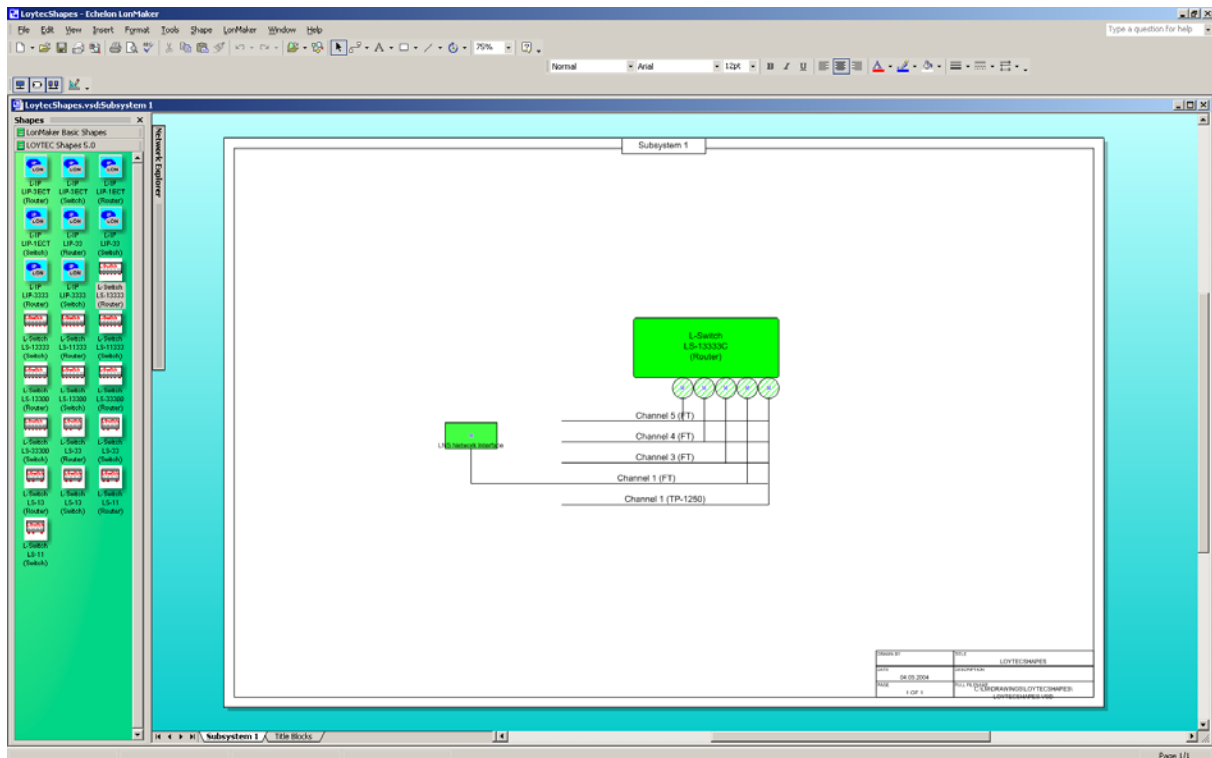

Figure 3: The L-Switch appears on the drawing area
4. The L-Switch now appears in the drawing area as shown in Figure 3 and is ready for use.